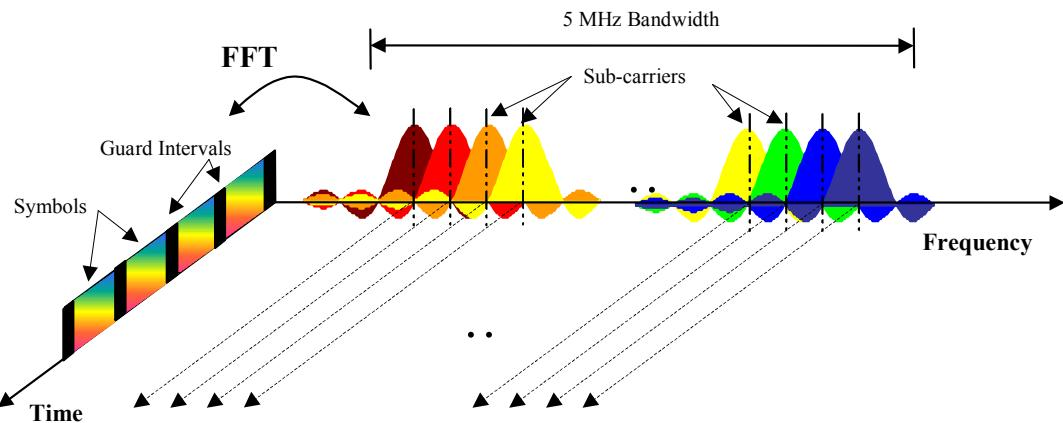

Fig. 1 Frequency-Time Representation of an OFDM Signal
Fig. 1 shows a representation of an OFDM signal taken from [2]. In this figure, a signal with 5 MHz bandwidth is shown, but the principle is of course the same for the other E-UTRA bandwidths. Data symbols are independently modulated and transmitted over a high number of closely spaced orthogonal subcarriers. In E-UTRA, downlink modulation schemes QPSK, 16QAM, and 64QAM are available. In the time domain, a guard interval may be added to each symbol to combat inter-OFDM-symbol-interference due to channel delay spread. In E-UTRA, the guard interval is a cyclic prefix which is inserted prior to each OFDM symbol.
The vector s_m is defined as the useful OFDM symbol. It is the time superposition of the N narrowband modulated subcarriers. Therefore, from a parallel stream of N sources of data, each one independently modulated, a waveform composed of N orthogonal subcarriers is obtained, with each subcarrier having the shape of a frequency sinc function (see Fig. 1).
One downlink slot consists of $N_{\text{symb}}^{\text{DL}}$ OFDM symbols. To each symbol, a cyclic prefix (CP) is appended as guard time, compare Fig. 1. $N_{\text{symb}}^{\text{DL}}$ depends on the cyclic prefix length. The generic frame structure with normal cyclic prefix length contains $N_{\text{symb}}^{\text{DL}} = 7$ symbols. This translates into a cyclic prefix length of $T_{\text{CP}} \approx 5.2 \mu\text{s}$ for the first symbol and $T_{\text{CP}} \approx 4.7 \mu\text{s}$ for the remaining 6 symbols. Additionally, an extended cyclic prefix is defined in order to cover large cell scenarios with higher delay spread and MBMS transmission. The generic frame structure with extended cyclic prefix of $T_{\text{CP-E}} \approx 16.7 \mu\text{s}$ contains $N_{\text{symb}}^{\text{DL}} = 6$ OFDM symbols (subcarrier spacing 15 kHz). The generic frame structure with extended cyclic prefix of $T_{\text{CP-E}} \approx 33.3 \mu\text{s}$ contains $N_{\text{symb}}^{\text{DL}} = 3$ symbols (subcarrier spacing 7.5 kHz).